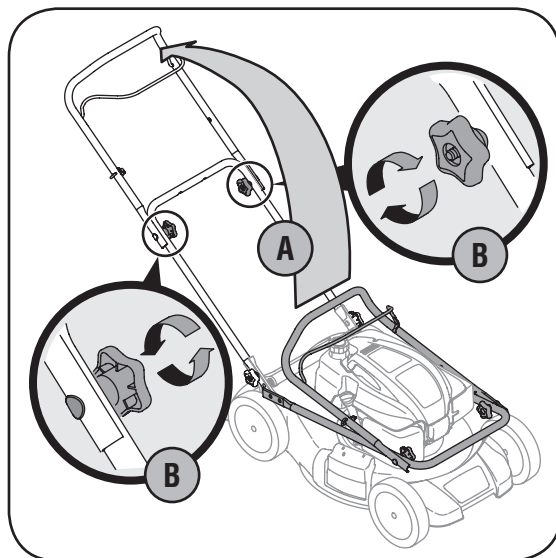

Figure 3-1
- a. Pull up and back on the upper handle to raise the handle from position A into the operating position. See Figure 3-1.